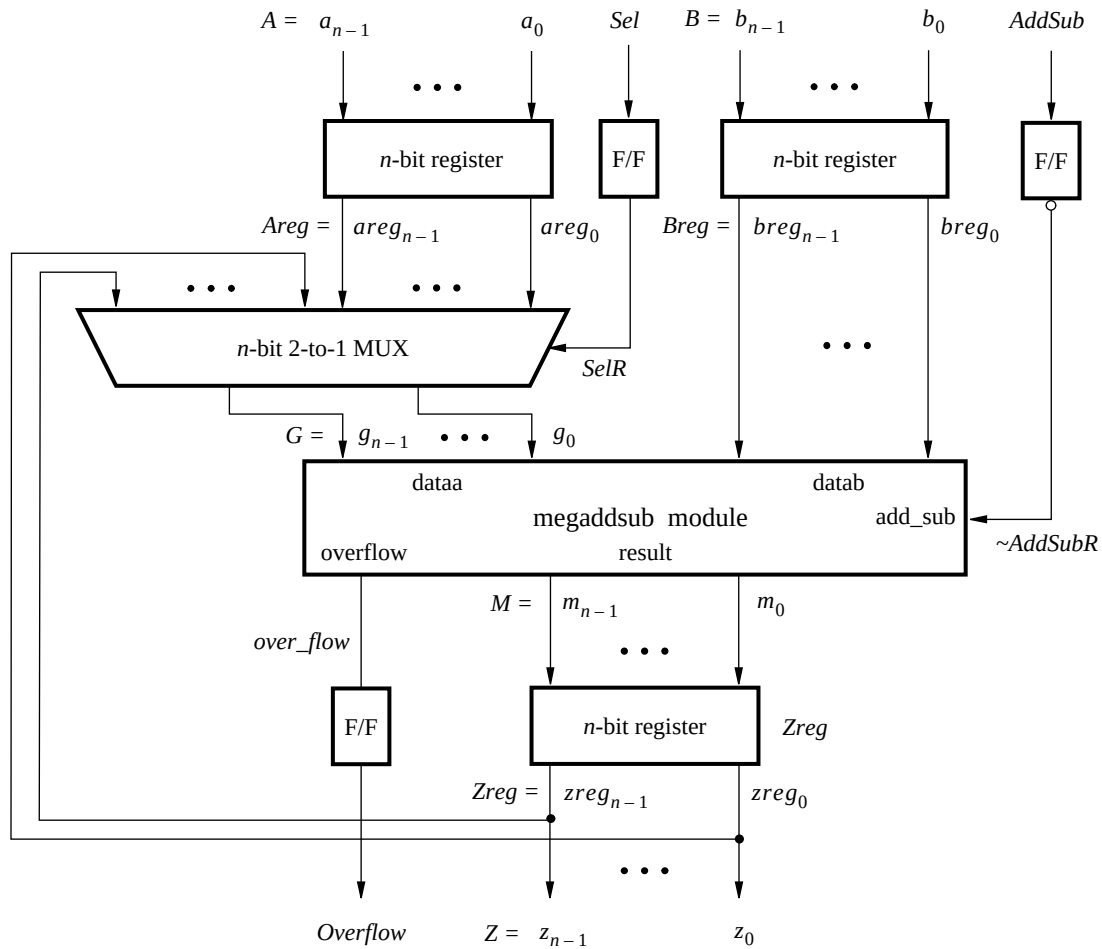
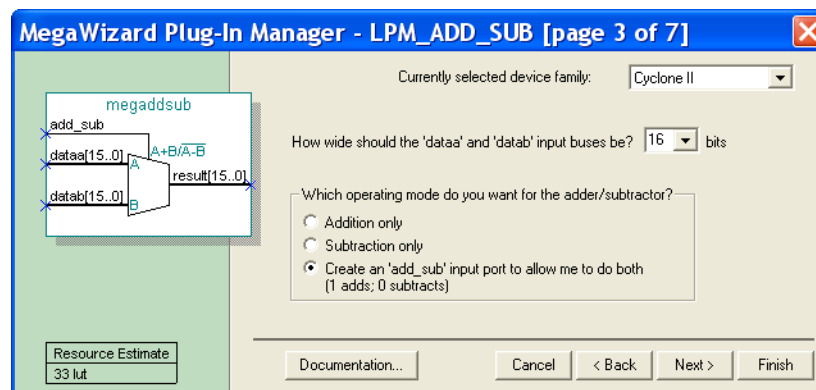

Figure 3. The augmented adder/subtractor circuit.
Figure 6. Specify the size of data inputs.
We will use the *lpm_add_sub* module to simplify our adder/subtractor circuit defined in Figures 1 and 2. The augmented circuit is given in Figure 3. The *lpm_add_sub* module, instantiated under the name *megaddsub*, replaces the adder circuit as well as the XOR gates that provide the input *H* to the adder. Since arithmetic overflow is one of the outputs that the LPM provides, it is not necessary to generate this output with a separate XOR gate.
4. In the box in Figure 6 specify that the width of the data inputs is 16 bits. Also, specify the operating mode in which one of the ports allows performing both addition and subtraction of the input operand, under the control of the *add_sub* input. A symbol for the resulting LPM is shown in the top left corner. Note that if *add_sub* = 1 then *result* = $A + B$; otherwise, *result* = $A - B$. This interpretation of the control input and the operation performed is different from our original design in Figures 1 and 2, which we have to account for in the modified design. Observe that we have included this change in the circuit in Figure 3. Click Next.
- The *adderk* instance of the adder circuit is replaced by *megaddsub*. Note that the *dataa* and *datab* inputs shown in Figure 6 are driven by the *G* and *Breg* vectors, respectively. Also, the inverted version of the *AddSubR* signal is specified to conform with the usage of this control signal in the LPM.